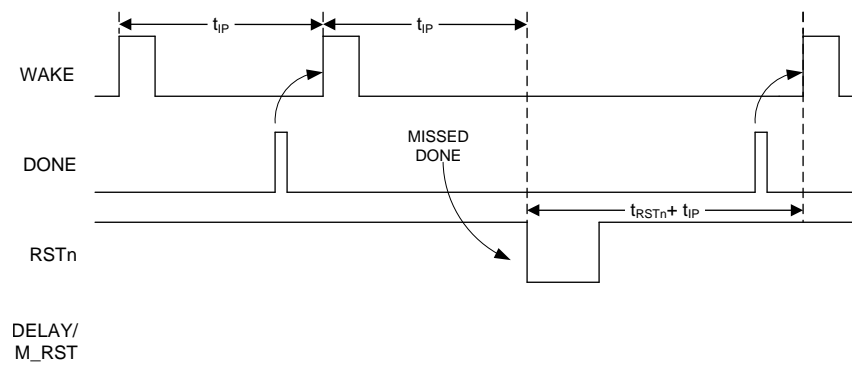
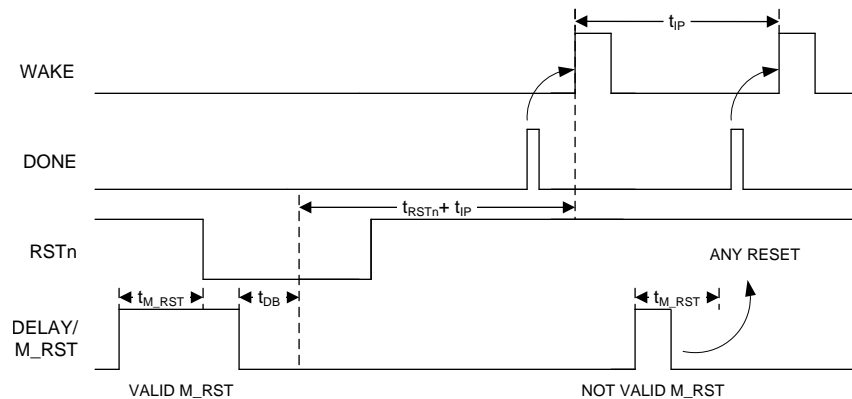

Figure 8. Watchdog
Figure 10. Manual Reset
- 2. At the beginning of a new time interval if DONE is not received at least 20 ms before the next WAKE rising edge (see Figure 8).
During normal operating mode, the TPL5010 asserts periodic WAKE pulses in response to valid DONE pulses from the uC. If either a manual reset is applied (logic HIGH on DELAY/M_RST pin) or the uC does not issue a DONE pulse within the required time, the TPL5010 asserts the RSTn signal to the uC and restarts its internal counters. See Figure 8 and Figure 10 .